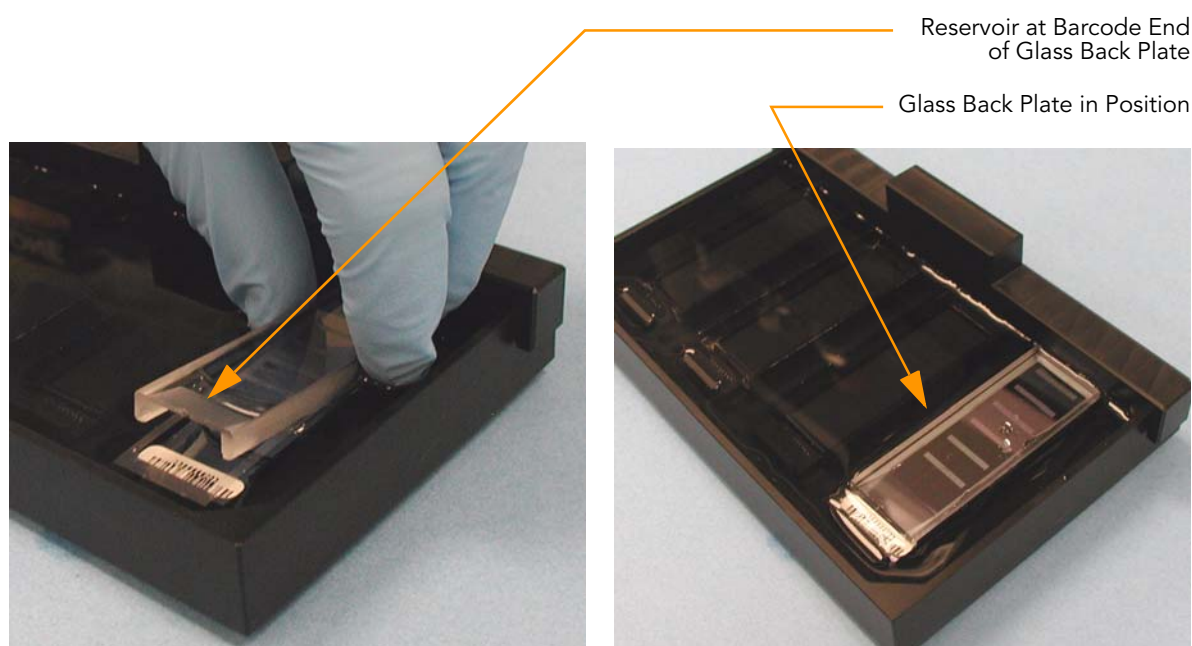

Figure 50 Placing Glass Back Plate onto BeadChip
6. Place a clean glass back plate on top of the clear spacer covering each BeadChip. The plate reservoir should be at the barcode end of the BeadChip, facing inward to create a reservoir against the BeadChip surface (Figure 50).